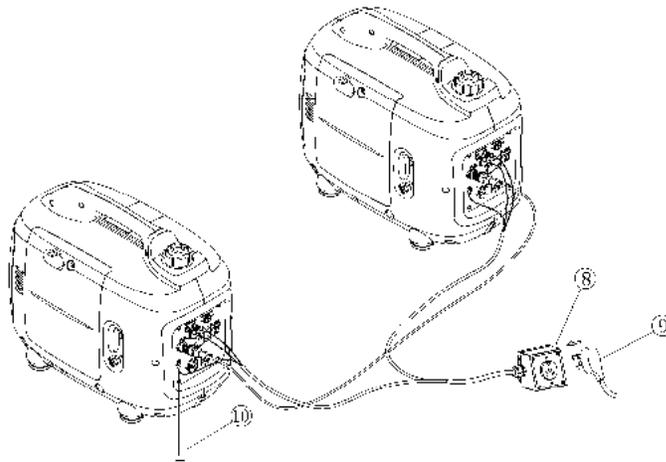

Fig. 5
Note: Ground the generators⑩ (Fig. 5). Both generators must be placed on a hard and level surface.